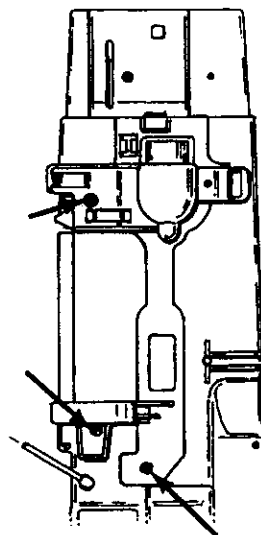

Fig. 14
1. Remove three screws (Fig. 14).